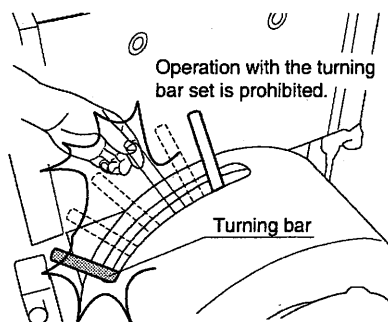

Fig. 2
- * ***Do not operate with leaving the turning bar in the flywheel. (Fig. 2)***